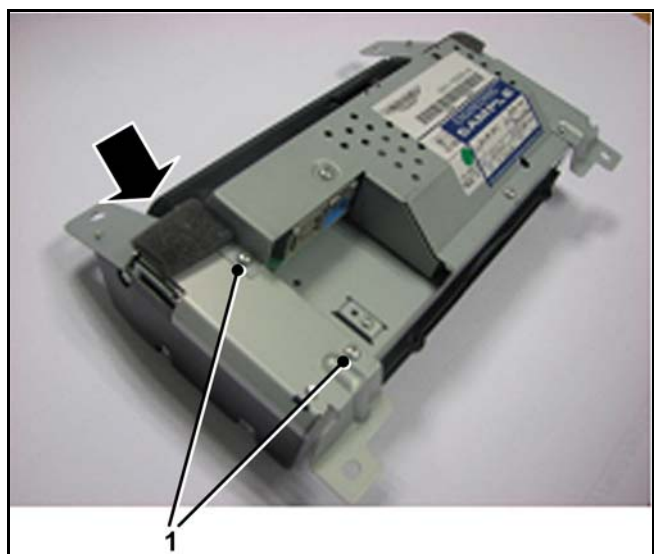

Figure 26
33. Install the two M3 screws (1) (see Figure 26). Torque the two M3 screws to 0.8 Nm.